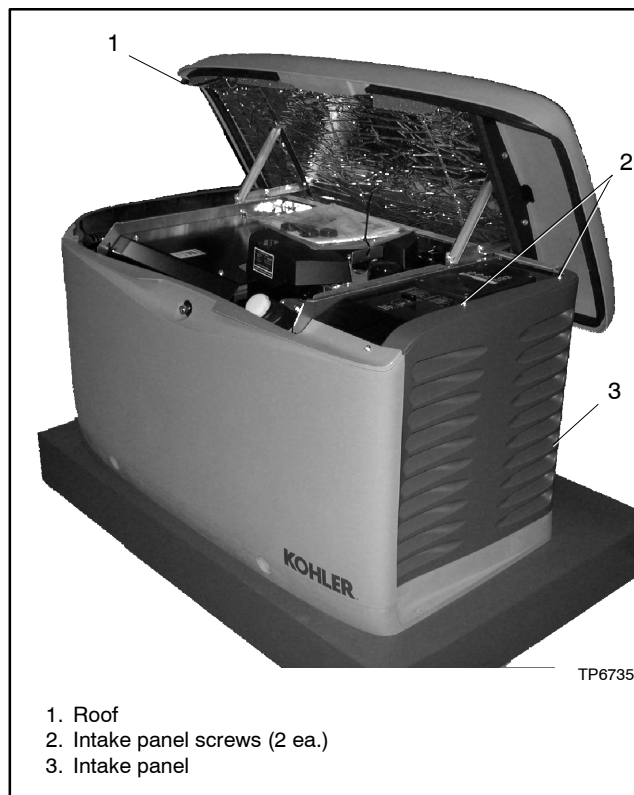

Figure 4-16 Enclosure Roof and Door
5. Remove two (2) screws on the intake panel and remove the panel. See Figure 4-16.